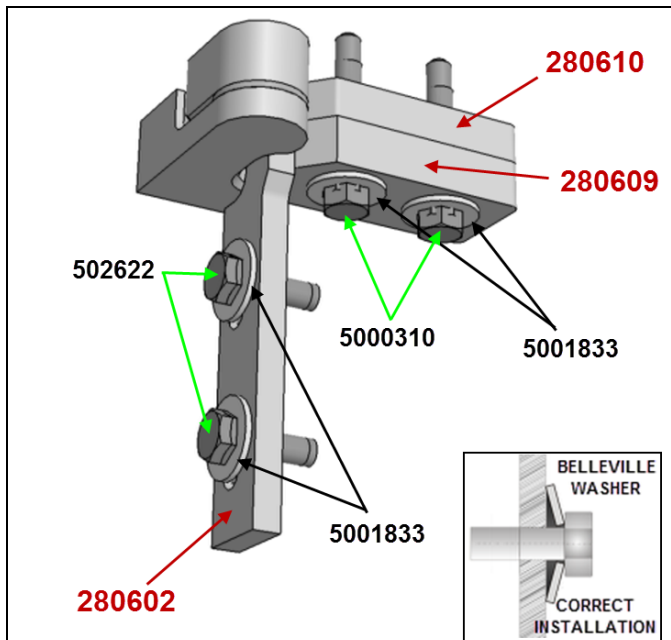

FIG.4 NEW UPPER HINGE
4. Install the new upper hinge (parts **280602**, **280609** & **280610** in kit Fig.4) making sure that:
- New M6 bolts and washers (**5000310** & **5001833**) are used at the upper (vehicle structure) mounting points (Fig.4).
- New M6 bolts and washer (**502622** & **5001833**) are used at the door mounting points (Fig.4).